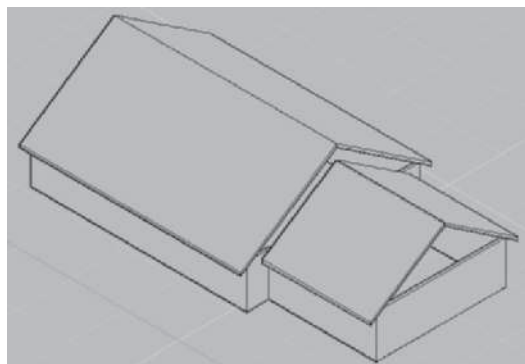

FIGURE 7.12 Completed gable roof
6. Select the View tab. Choose **3D Hidden** from the Visual Styles flyout of the Visual Styles panel; the final roof should appear as shown in Figure 7.12.